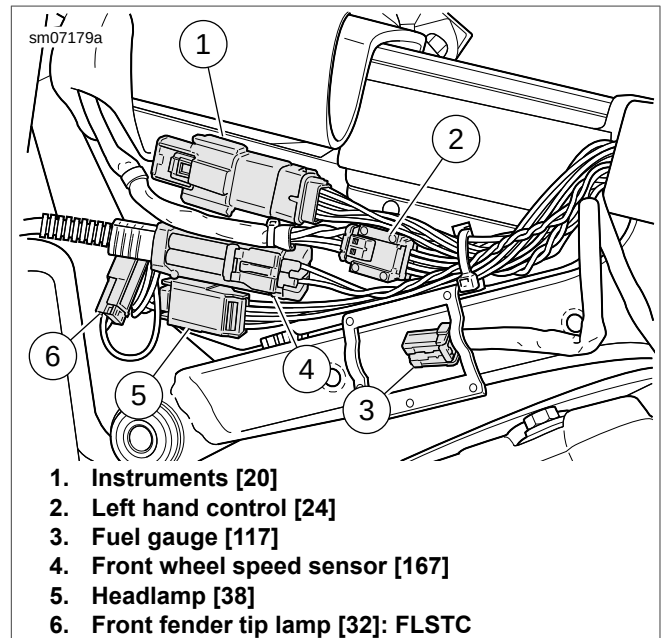
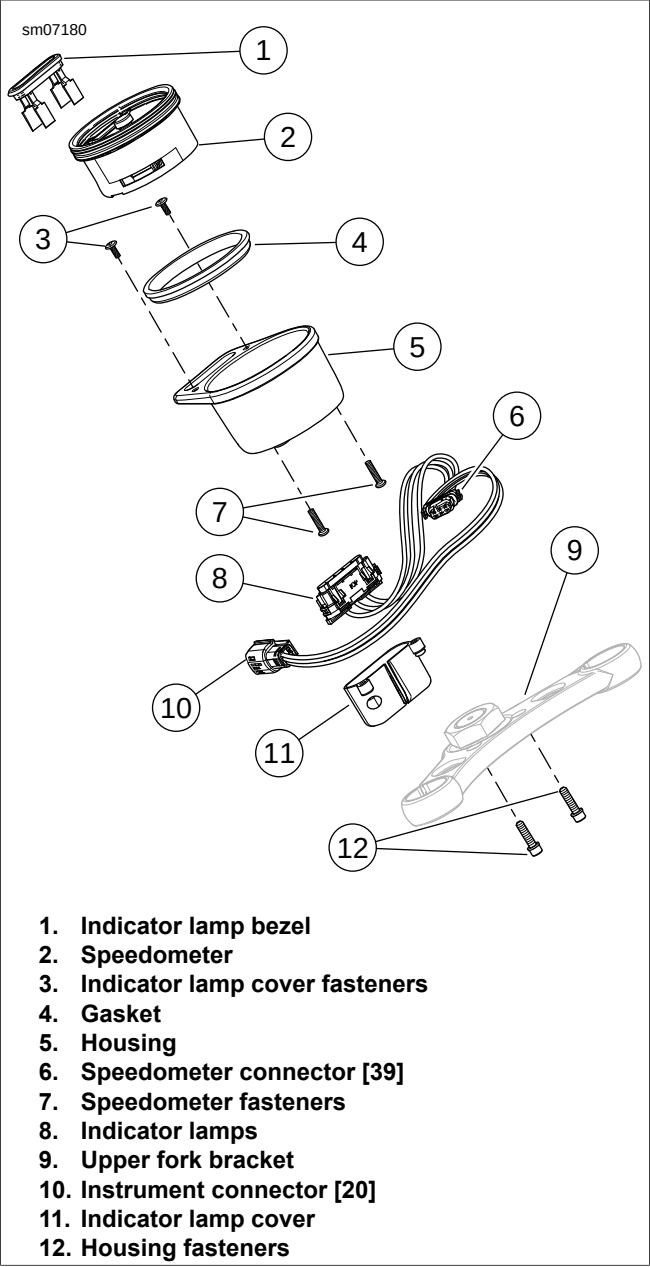

Figure 7-92. Under Fuel Tank Left Side
Figure 7-93. Speedometer: FXS
2. See Figure 7-92. Disconnect Instruments connector (1).
3. See Figure 7-93. Remove fasteners (12) securing speedometer housing (5) to upper fork bracket (9).
4. Remove speedometer connector [39] (6) from speedometer (2).
5. Remove indicator lamp cover fasteners (3) securing indicator lamp cover (11) to housing (5).
6. Remove indicator lamps (8) from indicator lamp cover.
- See Figure 7-93. Install **new** Indicator lamp assembly (8) into indicator lamp cover (11).
- Position indicator lamp in position under housing (5).
- Install speedometer connector (6) to speedometer (2).
- Place housing in position over upper fork bracket (9).
- Install housing fasteners (12). Tighten fasteners to 72-120 **in-lbs** (8.1-13.6 Nm).
- See Figure 7-92. Connect instrument connector [20] (1) to harness under fuel tank.